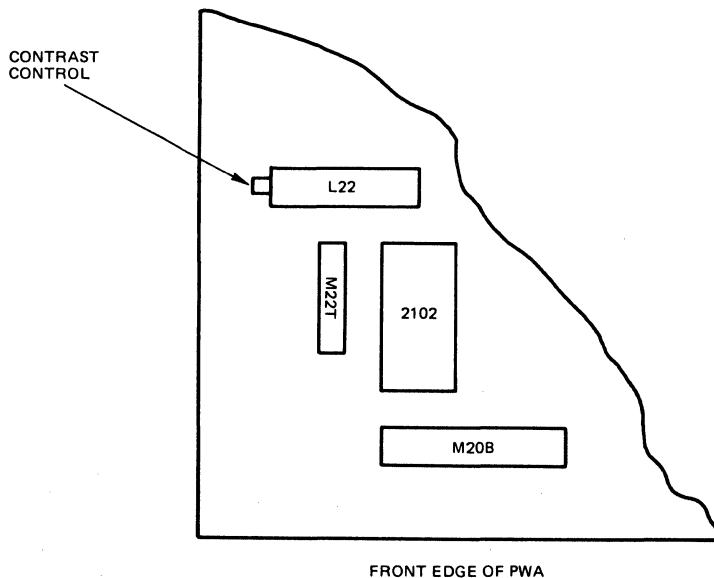

Figure 8-1 Location of Contrast Control
3. At left side of PWA as seen from front of terminal, adjust contrast control (see Figure 8-1) until the horizontal line in the H protrudes out to right as shown below.